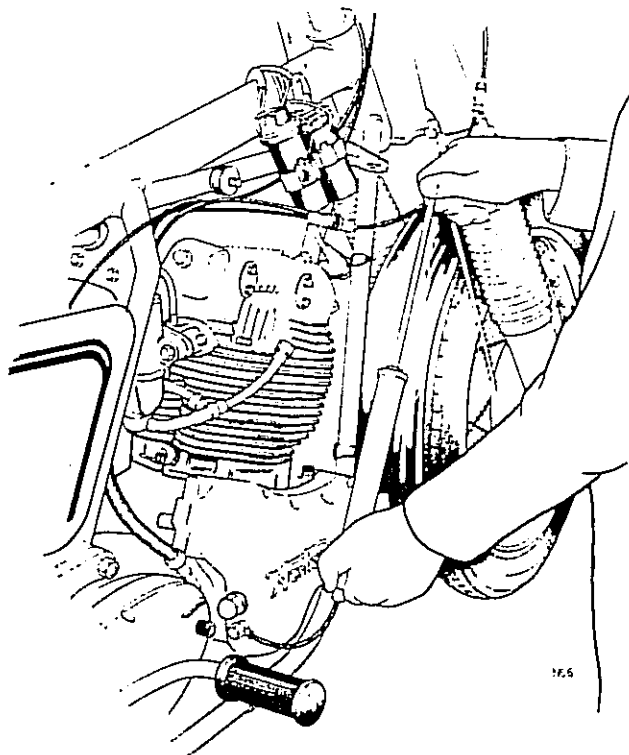

Fig. C41 Priming crankshaft with oil
Prior to fitting the bottom connection for the rocker feed pipe it is most desirable to prime the crankshaft with approximately a teacup full of oil. This is most easily achieved by the use of an oil syringe, short length of flexible pipe, and a spare rocker feed pipe banjo which can be connected at the rear of the timing case. The priming operation is shown in Fig. C41.
- 7 Turn the engine crankshaft backwards to lower the pistons, then support the pistons as in Fig. C41 on two suitable bars which must not overlap the timing case.
- 10 Smear both piston bodies with clean engine oil. Fit piston ring clamps (also shown in Fig. C41) to keep the piston rings closed. Do not over-tighten the ring clamps which would tend to prevent the ring clamps sliding as the cylinder is offered.